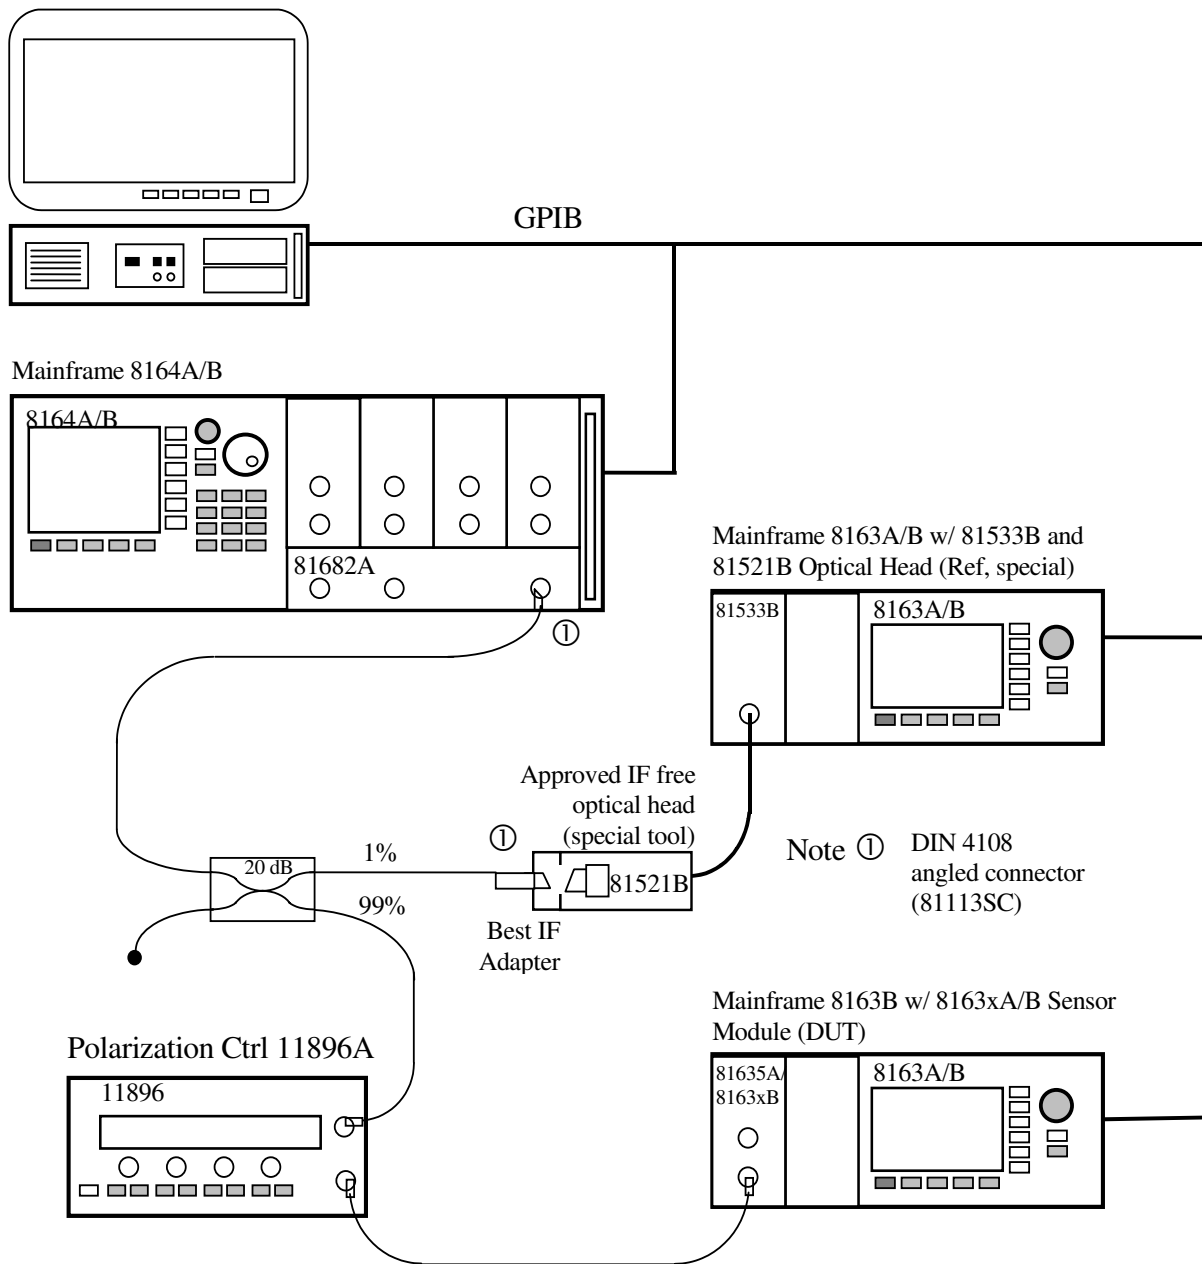

Figure 8 Measurement Setup for PDL Test
- 9** Disconnect the 81610CC Reference Cable from the setup and connect a 81113SC user cable to the Return Loss Module and leave the other end open as shown in Figure 8.